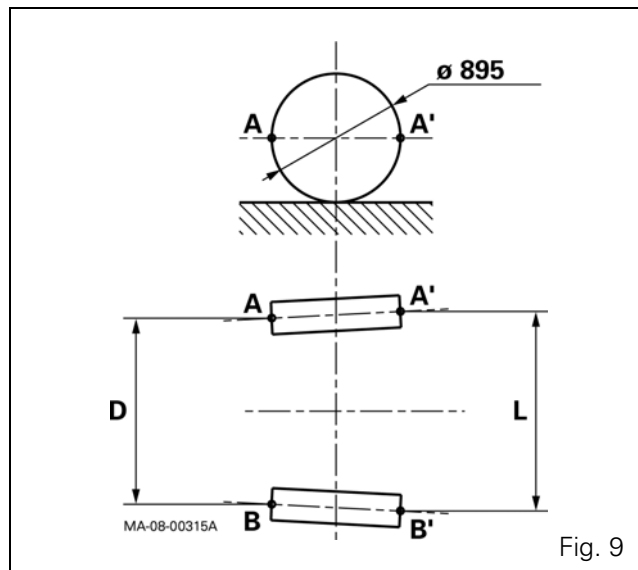

Fig. 9
85. Place the steering in neutral position. The adjustment is carried out by moving the rods. Unscrew the screws (11) to adjust the rod lengths and to obtain a toe-in of 0 to 14 mm.
86. This toe-in is measured at points A, A' and B, B' determined by a diameter of 895 mm marked on the sides of the tyres (Fig. 9).